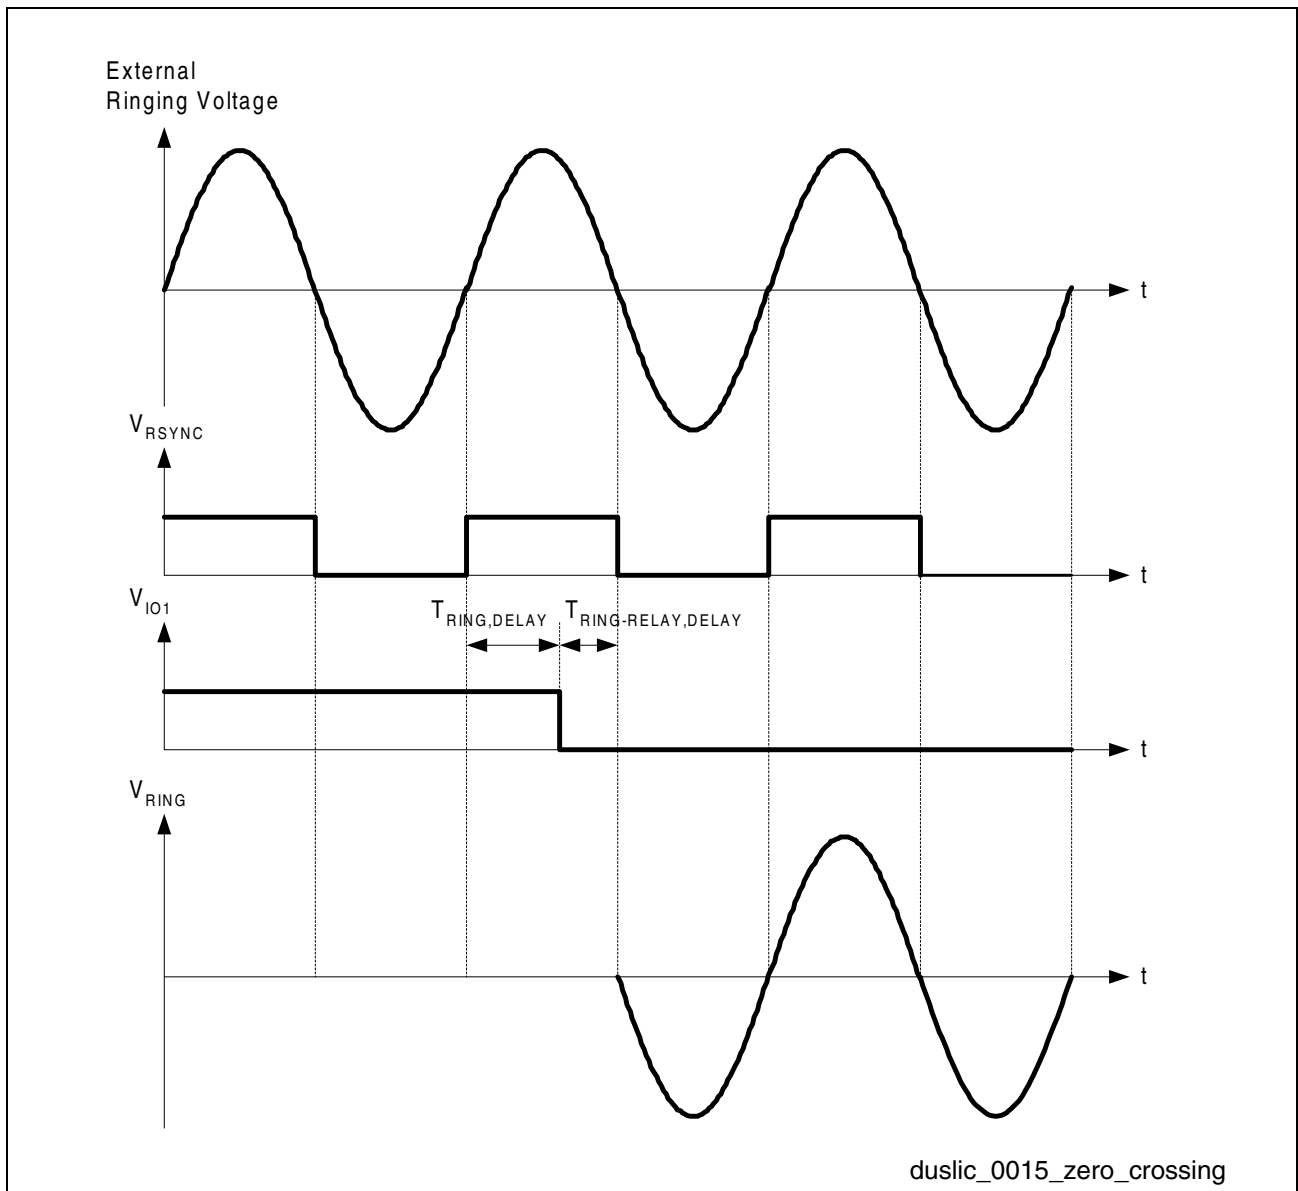

Figure 23 External Ringing Zero Crossing Synchronization
- A TTL compatible zero crossing signal must be applied to the RSYNC pin of the *SLICOFI-2x* (see Figure 23).
A ring generator delay $T_{RING,DELAY}$ (see DuSLICOS control parameters 2/4) can be programmed to consider the ring relay delay $T_{RING-RELAY,DELAY}$ as shown in Figure 23.